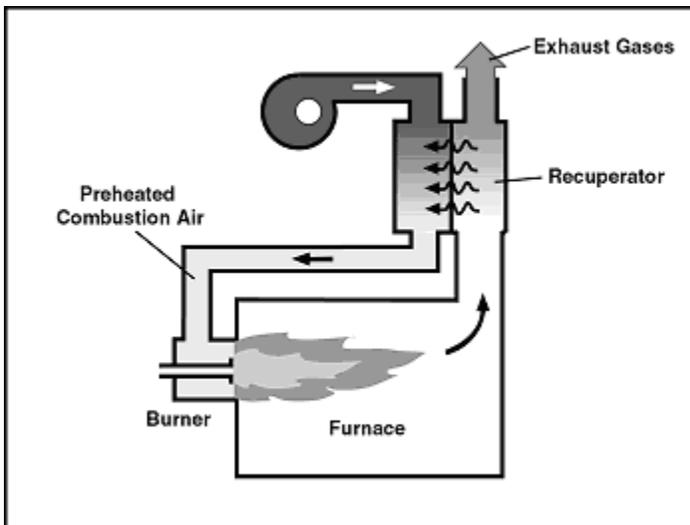

Figure 2. Recuperators transfer heat from outgoing gas to incoming combustion air without allowing streams to mix.
**Recuperators.** A Recuperator (Figure 2) is a gas-to-gas heat exchanger placed on the stack of the furnace. There are numerous designs, but all rely on tubes or plates to transfer heat from the outgoing exhaust gas to the incoming combustion air, while keeping the two streams from mixing. They are the most widely used heat recovery devices.